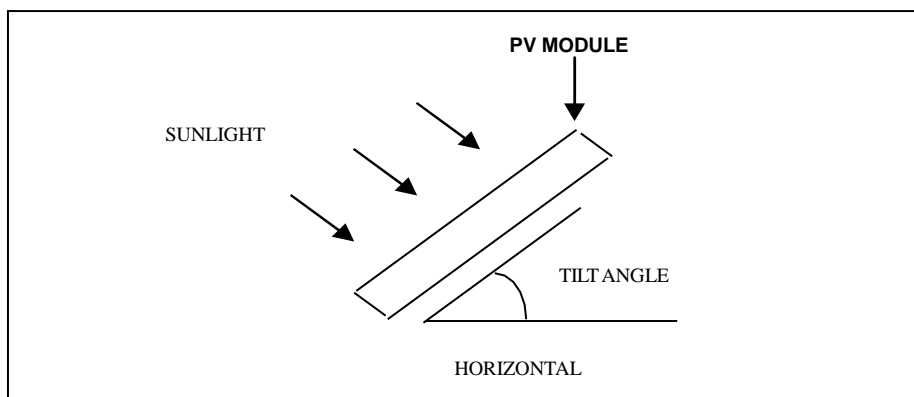

Fig. 7-1 Tilt angle
- The installation tilt angle refers to the angle between the solar PV modules and the ground plane. Refer to Table 7-2 for details and see Figure 7-1 for the diagram.